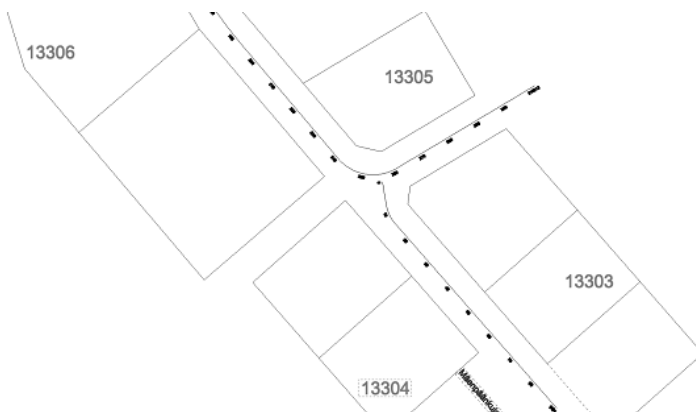

Fig. 77: Example of a 2D background map
A 2D background map is a design model that consists of points, lines, curves and text objects (Fig. 77). A 2D background map does not contain height (Z) information and therefore typically can only be used to position the machine on an X, Y plane.